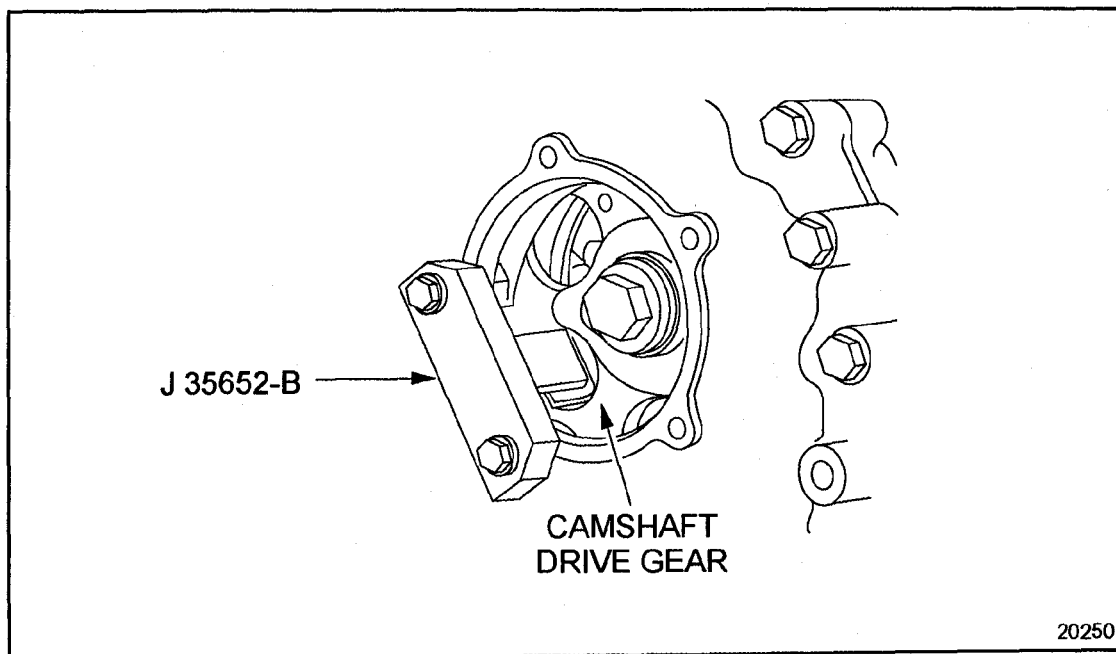

Figure 1-337 Camshaft Drive Gear Torque Holding Tool Installation
6. Install J 35652 to the gear case, engaging one of the lightening holes in the camshaft drive gear. Use two of the access cover bolts to secure the tool to the gear case. See Figure 1-337.